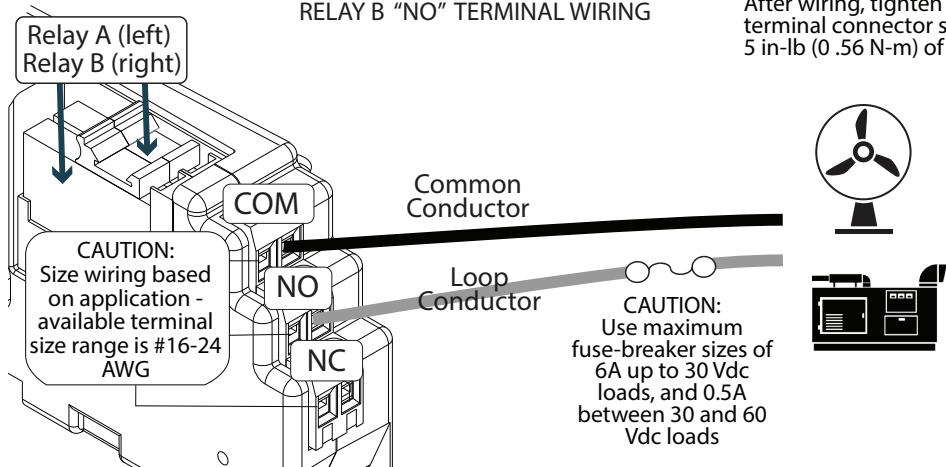

Figure 5-1 - Load Starting Detail
A two-wire starting generator generally automates the cranking and starting routine. The Relay Common and Normally Open (NO) terminals can be wired to perform a two-wire generator start - see Figure 5-1 below.